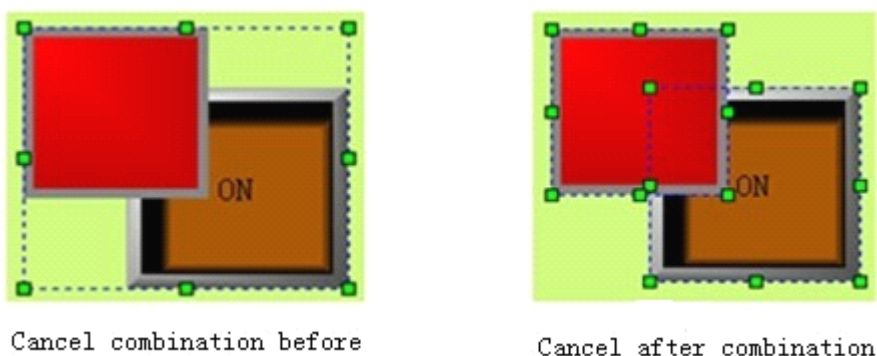

Figure 4-6: Contrast before and after disassembling
- Choose a graph object assembled using Assemble command, and then choose Disassemble command in the Edit menu or Disassemble command in the tool button, or call the right click menu and choose Disassemble command in the Assemble option. Figure 4-6 shows the contrast before and after disassembling.